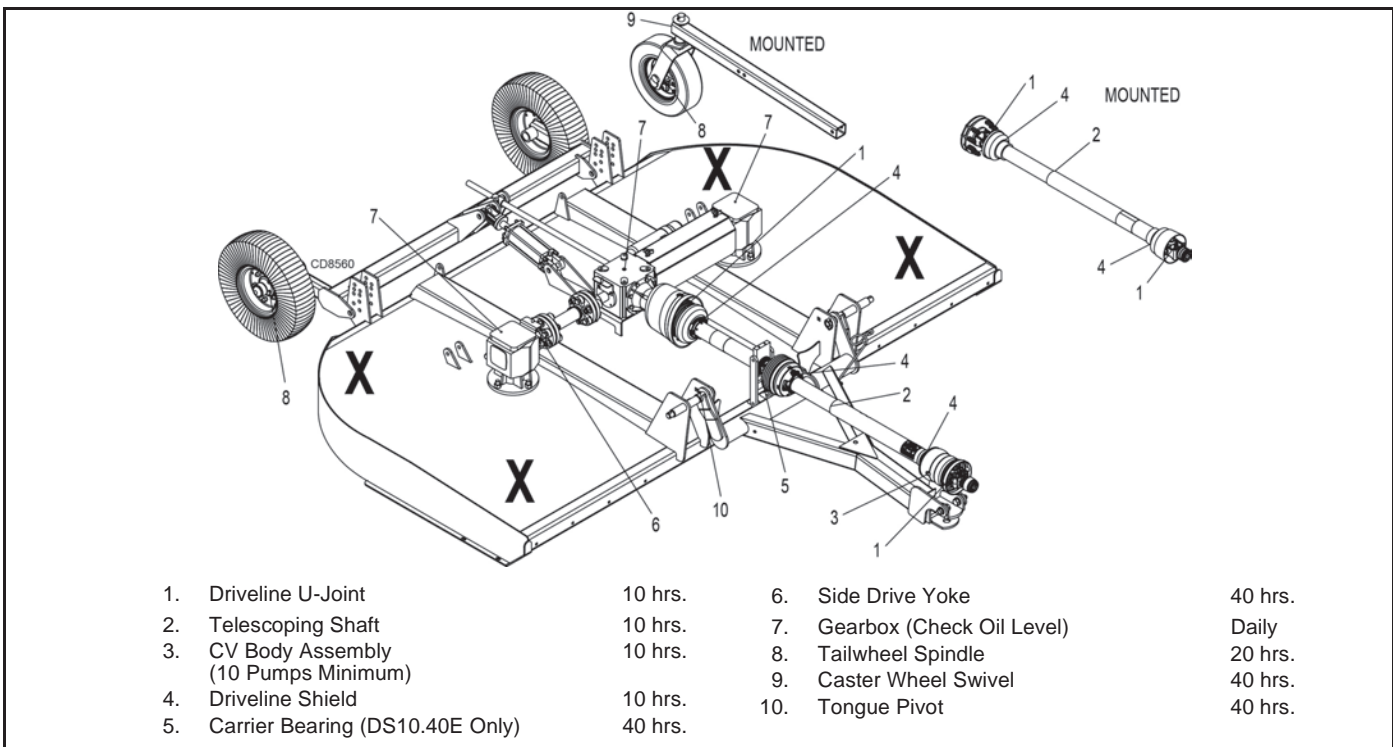

Figure 11. Jackstand Placement and Lubrication Points
1. Jackstands with a load rating of 453.6 kg (1000 lbs). or more are the only approved blocking device for this cutter. Install a minimum of four jackstands (shown by Xs in Figure 11) under the cutter before working underneath unit.
See Figure 11 for lubrication points and frequency of lubrication based on normal operating conditions. Severe or unusual conditions may require more frequent lubrication.
2. Raise cutter and block securely. (See Figure 11).
3. Align crossbar (5) with blade access hole in the cutter frame. Remove cap screw (27), blade pin lock clip (13), keyhole plate (12), and shims (10 & 11). Carefully drive blade pin (9) out of crossbar.
4. Rotate crossbar (5) and repeat for opposite blade.